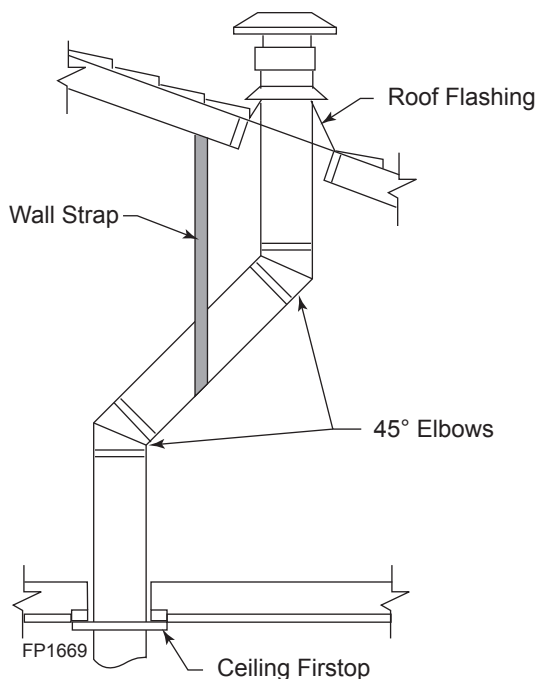

Figure 23 - Offset with Wall Strap and 45° Elbows
1. Determine the route your vertical venting will take. If ceiling joist, roof rafters or other framing will obstruct the venting system, consider an offset. Refer to Figure 23 to avoid cutting load bearing members.